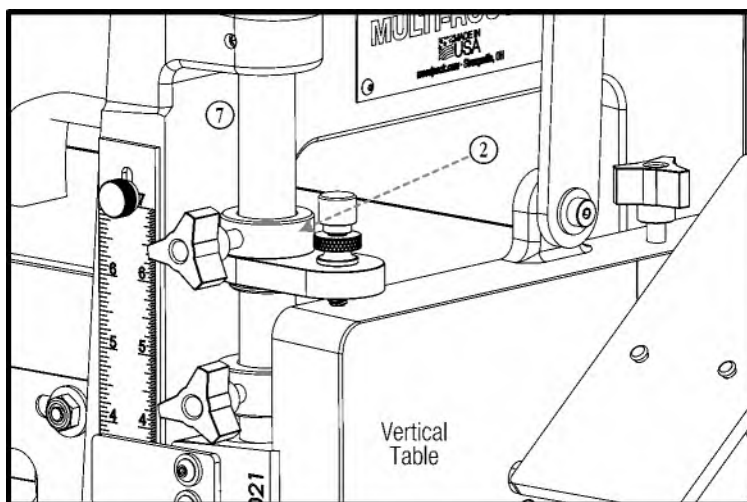

FIGURE 1.
1. Swing the Micro Adjust forward so that the Brass Thumb Screw is over top the Vertical Table. **FIGURE 1.**